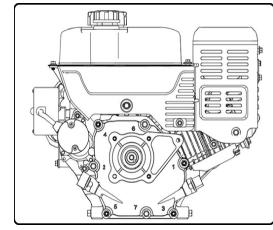

Figure 34
2. Unscrew oil fill cap from oil filler tube and wipe dipstick clean. See Figure 34.
1. Locate the oil drain plug, See figure 34.
3. Clean area around oil drain plug, see Figure 34.